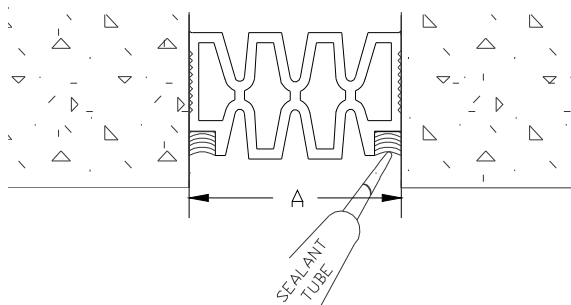

Figure 7
**STEP 6.** Apply Silicone Sealant to the recesses on the front of the seal, see Figure 7.